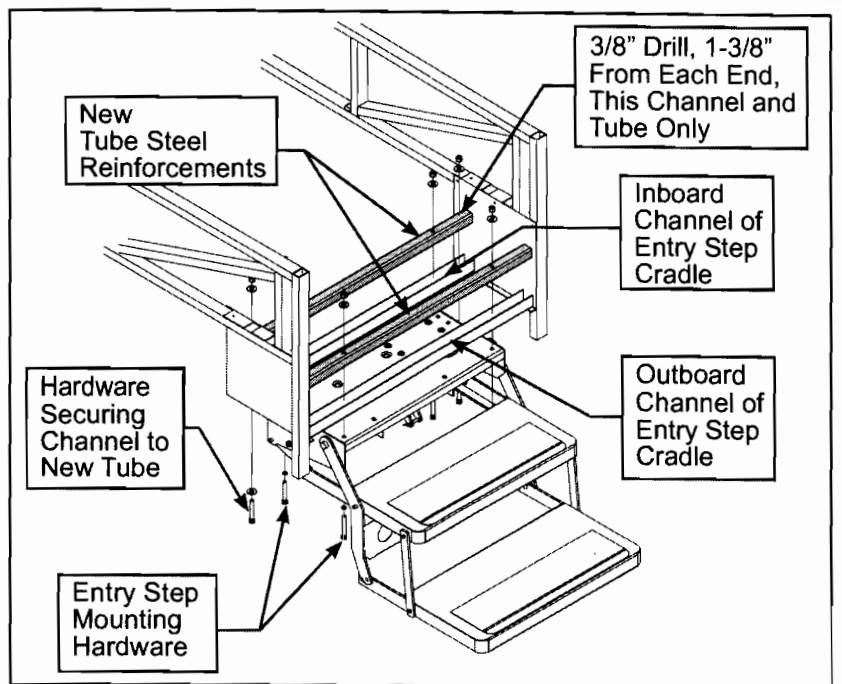

Figure 1
7. Use an electric drill with a 3/8" twist drill bit, to drill out the threads of the four weld nuts in the entry step cradle that were used to secure the entry step frame. See Figure 1.
8. Place a new 1-1/4" square steel tube inside the top of each of the two step cradle channels with the two 7/8" holes placed down over the top of the existing weld nuts. See Figure 1.
9. Place a split lock washer on each of two 3/8-16 X 2-1/2" bolts. Insert the bolts up through the inboard mounting holes for the entry step frame, through the inboard entry step cradle, and through the new 1-1/4" square steel tube. See Figure 1.
14. Drill a 3/8" hole through the entry step cradle channel continuing up through the new 1-1/4" square steel tube on each end of the inboard entry step cradle channel. See Figures 1 and 2.
15. Place a flat washer on each of two 3/8-16 X 2-1/2" bolts. Install bolts passing up from the bottom of the entry step cradle and through each of the two holes drilled in Step 14. See Figure 1.